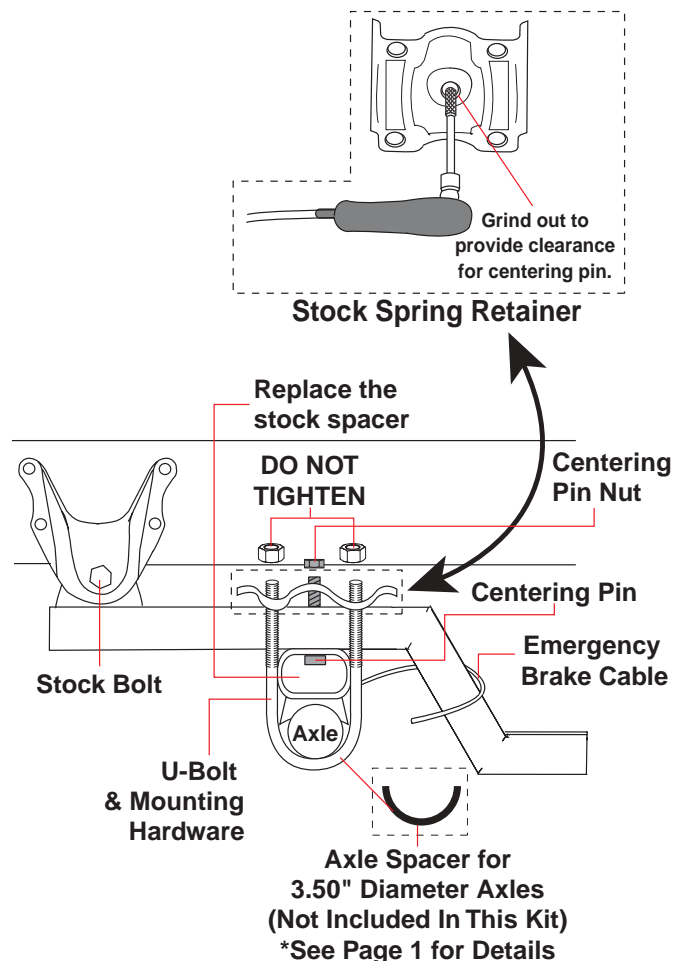

Figure 5
1. Install the driver-side beam assembly to the front spring eye hanger using the previously removed stock bolt and nut. Be sure to index the centering pin into the stock spacer block (4x4 only) or spring perch (2WD) in order to properly locate the axle and the beam. Leave loose at this time (Figure 5).
2. Drill or grind the spring retainer center hole out to provide clearance for the centering pin nut on the beam assembly (Figure 5).
- Tighten the beam U-bolts to 170 ft/lbs. using a criss-cross pattern to tighten evenly (Figure 13). Using a hacksaw, grinder, or cut-off wheel, trim off the excess U-bolt so it is 1" above the retaining nuts. Torque the front stock beam pivot bolts to 185 ft/lb. (Figure 5).